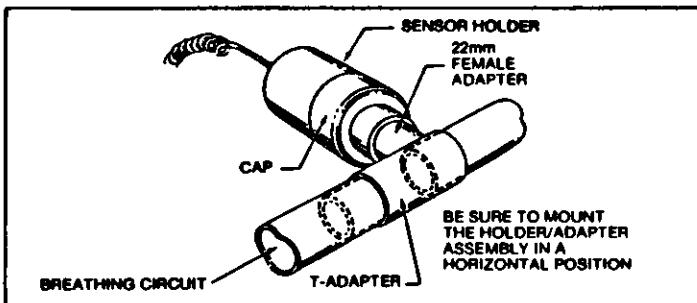

Figure 2. Mounting of Sensor Holder in T-adapter
- A T-adapter is available for installing the sensor holder in breathing circuits. To install the holder on the T-adapter, screw or attach the appropriate optional accessory fitting into the holder cap. Then insert the holder, fitting end first, onto the T-adapter as shown in Figure 2. Note: A mounting clamp is available that allows easy mounting of the TED 120 conveniently near the sensor holder, in a number of desirable positions.